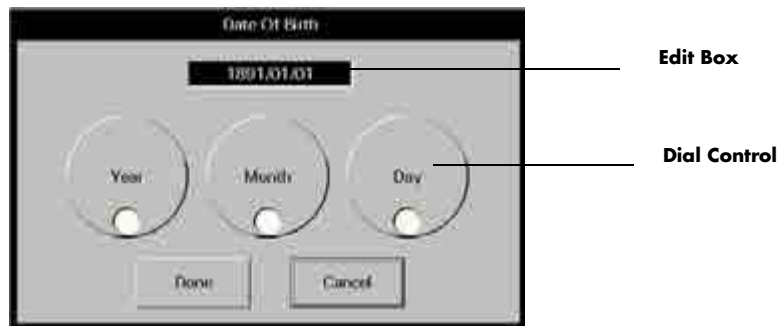

FIGURE 5-7 Date Of Birth Dialog Box
1. From the **Demographics** tab, select the **Date Of Birth** field. The **Date Of Birth** dialog box (shown in FIGURE 5-7) is displayed.